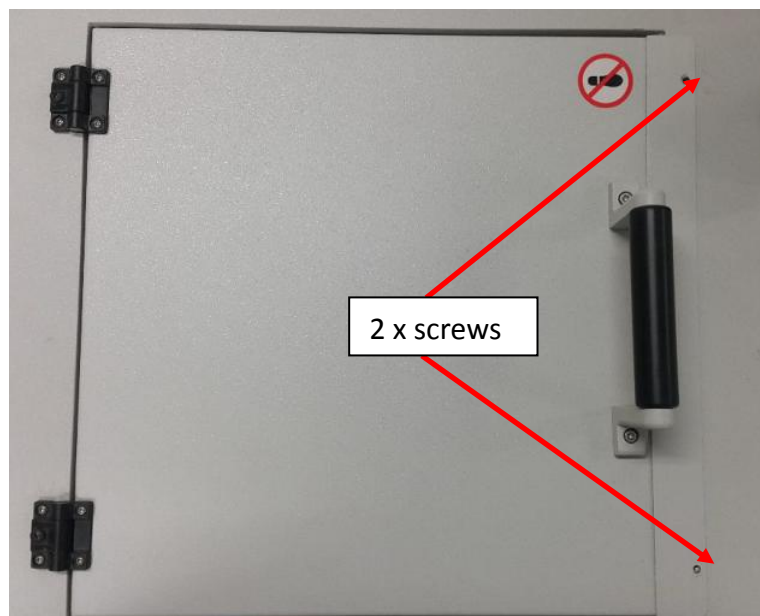

Figure 15 Top enclosure
16. Close top enclosure by apply 2 screws as shown in the Figure 15.